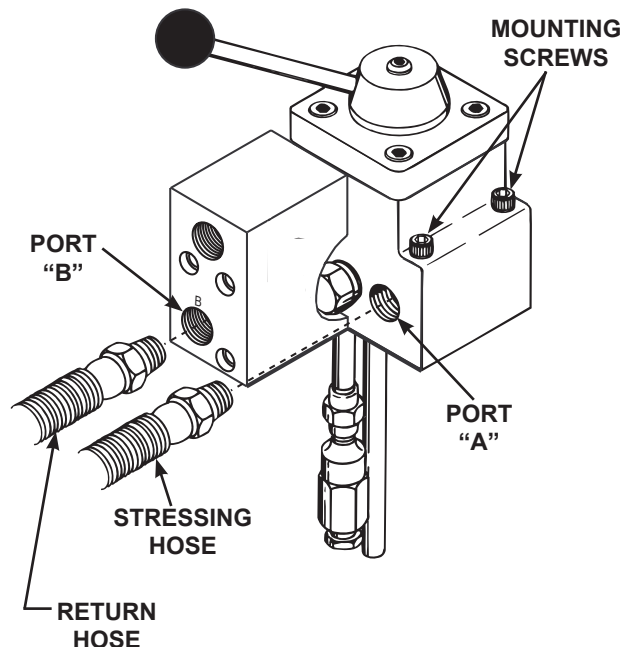

FIGURE 2
3. Connect the stressing hose from the stressing jack to the "A" port of the valve. See Figure 2.
**WARNING:** For use on PE30 Series pumps replace the mounting screws with longer mounting screws (No. 10856). See Figure 2.